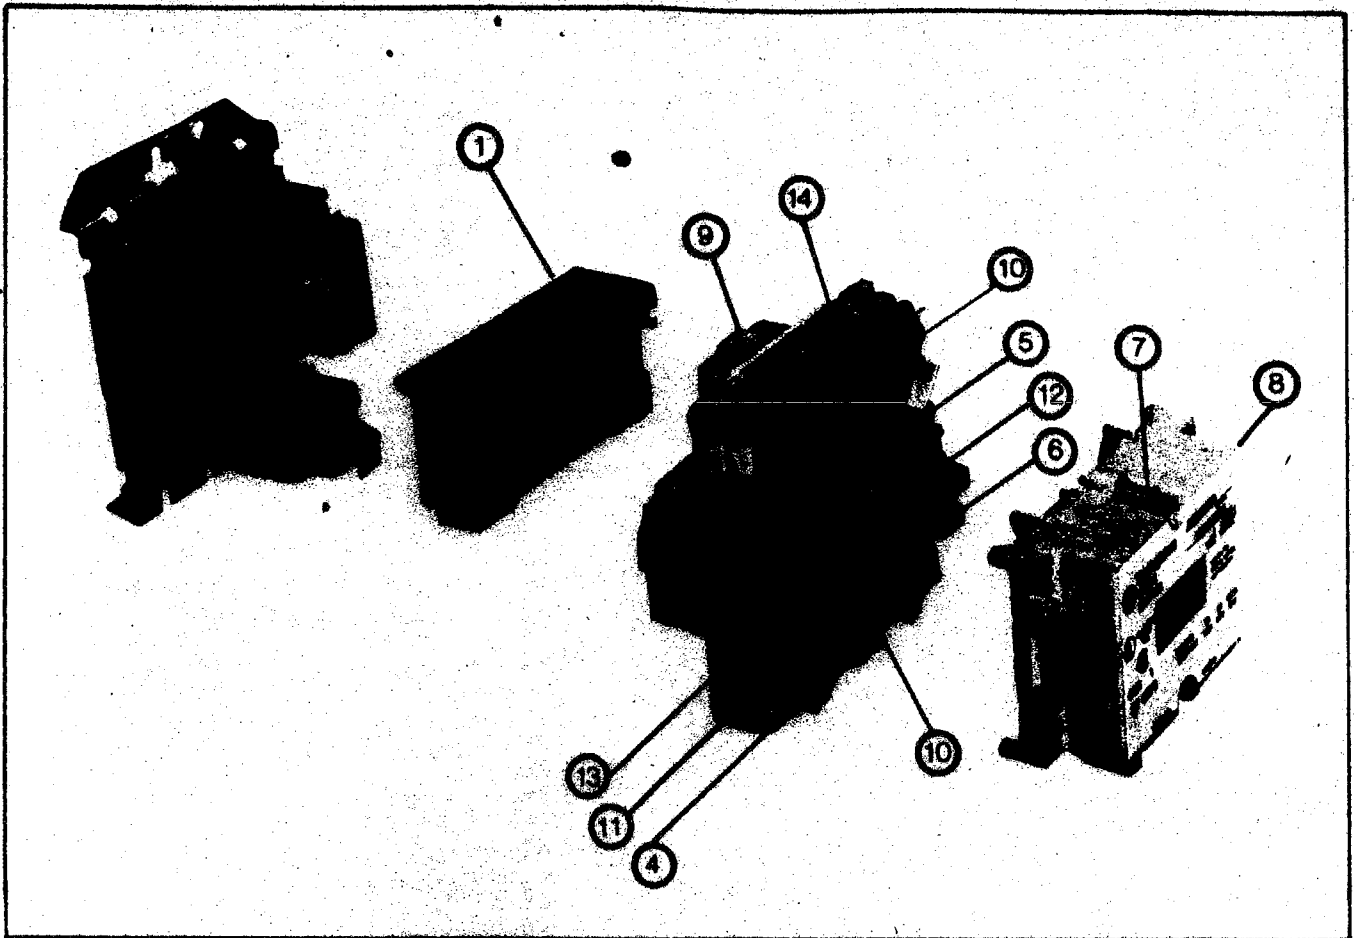

Fig. 9 Size 1 A200 Contactor (Exploded View)
Refer to Figure 9. Loosen the two arc box assembly screws (7) located immediately above and below the nameplate and remove the arc box (8). Contacts (5) are visible. Retighten the screws per Table V.
Refer to Figure 9. Loosen the assembly screws (10) located to the immediate top and bottom of the arc box. Remove connector straps to the overload relay. Pull the loosened upper base structure (9) forward. Pull the coil (1) from the upper base structure and check the auxiliary contacts for secureness when repositioning the upper base. Tighten the assembly screws and the connector straps screws referring to Table V.